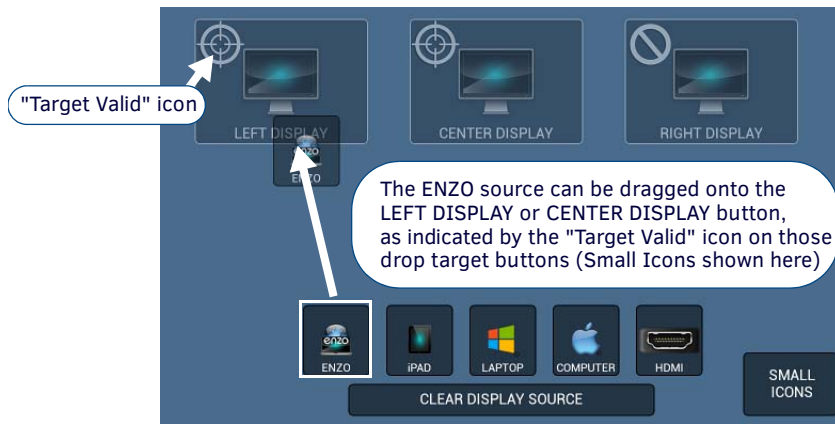

FIG. 293 Drag and Drop Demo - Dragging the COMPUTER Source button onto the LEFT DISPLAY Drop Target button
- Note that the LEFT DISPLAY (drop target) button indicates that it is a *valid* drop target for the ENZO and iPAD draggable buttons (FIG. 293):